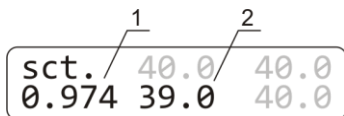

Figure 3. Changing the coefficient:
6.4.6. Using the ▲ and ▼ T, °C keys, change the calibration coefficient (fig. 3/1) so that the new temperature value (fig. 3/2) corresponds to the independent sensor temperature. In our example, the calibration coefficient will be 0.974.